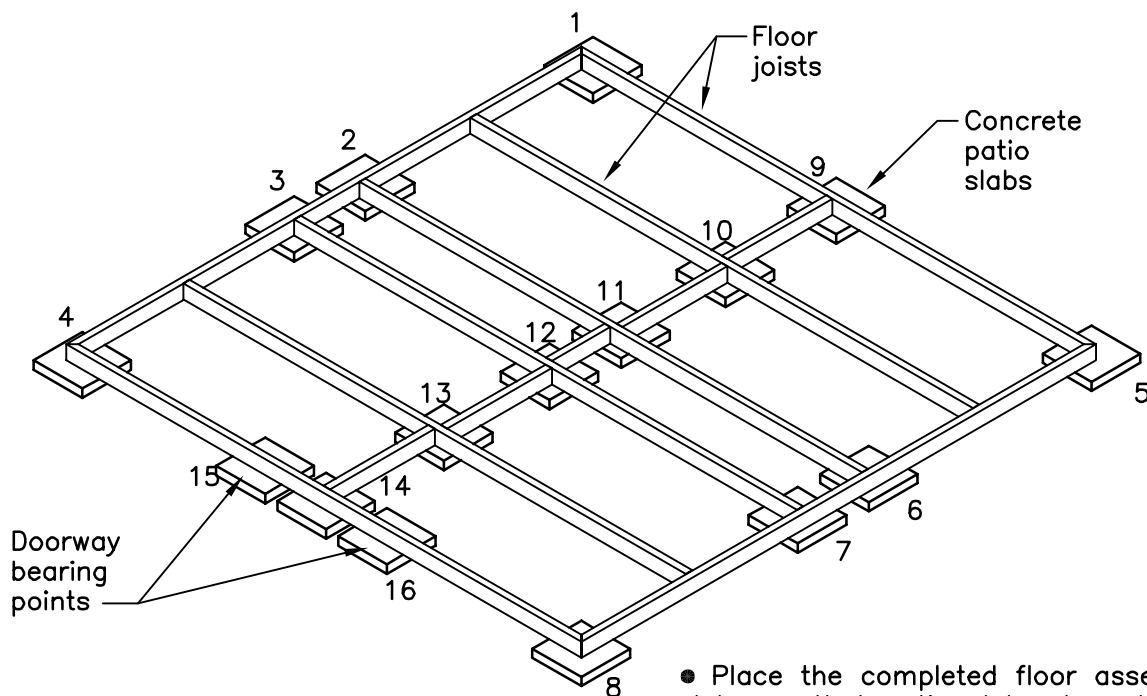

FIGURE S4
- Take the 16 two inch thick concrete blocks and place them under 16 foundation bearing points as outlined in Figure S4.
- Place concrete patio slabs as shown in Figure S4.